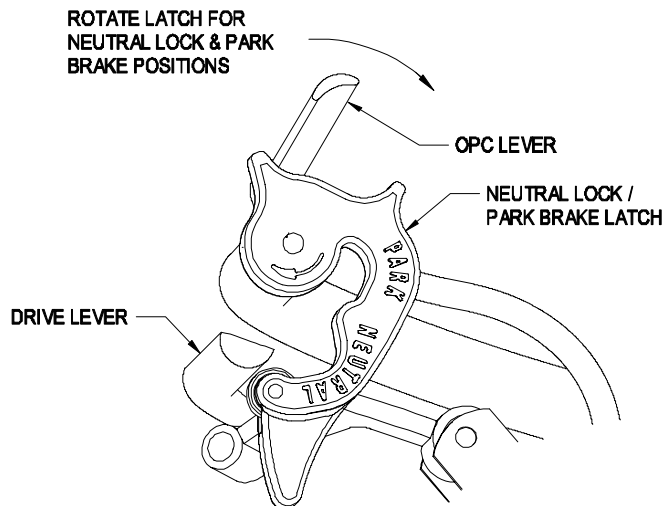

FIGURE 9
- 4.1.2 Operator Presence Control (OPC) Levers: Located on the upper handle assembly directly above the handle grips. See Figure 9. **When these levers are depressed, the OPC system senses that the operator is in the normal operator's position. When the levers are released, the OPC system senses that the operator has moved from the normal operating position** and will kill the engine if either the transmission shift lever is **not in the neutral** position or the **PTO is engaged**. See Figure 9.
- 4.1.3 Drive Levers: Located on each side of the upper handle assembly directly below the handle grips. See Figure 9. These levers individually control the clutching action of the wheel drive belts and the brakes. When the drive levers are all of the way out, the brakes disengage and the wheel drive belts engage.
- 4.1.4 Neutral Lock/Parking Brake Latch: Located at the end of the handles. The purpose of these latches is to allow the operator to lock the drive levers in a "neutral" position where neither the wheel drive belts nor the brakes engage, or in a "park brake" position where the wheel drive belts are not engaged and the park brake is engaged. See Figure 9.